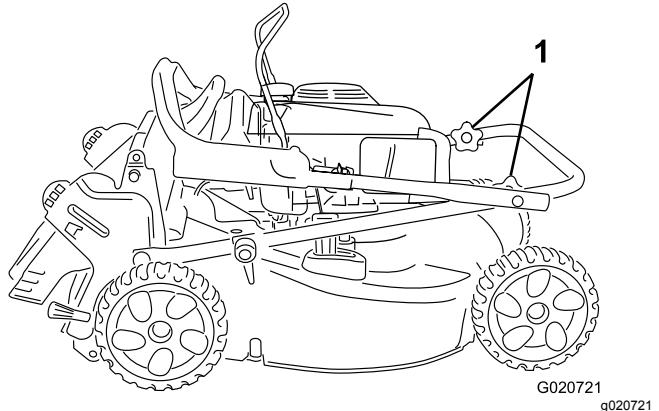

Figure 22
3. Rotate the upper portion of the handle back toward the engine; refer to Figure 22.